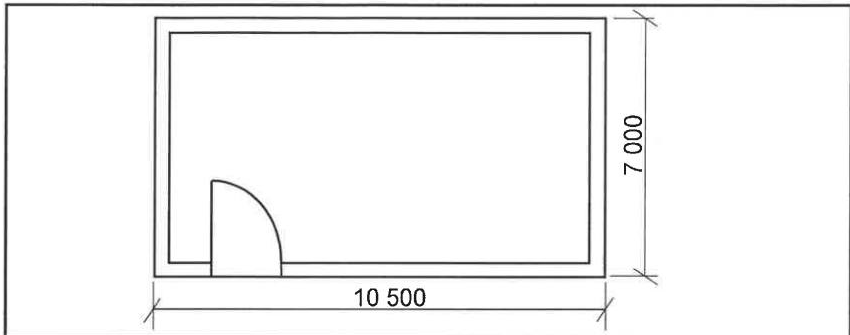

FIGURE 6.5
6.5 FIGURE 6.5 below shows the floor plan of a small store room.